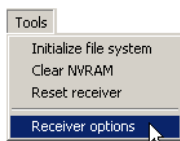

**Figure 4-8. Open Receiver Options**
2. Click **Tools ► Receiver Options** (Figure 4-8).